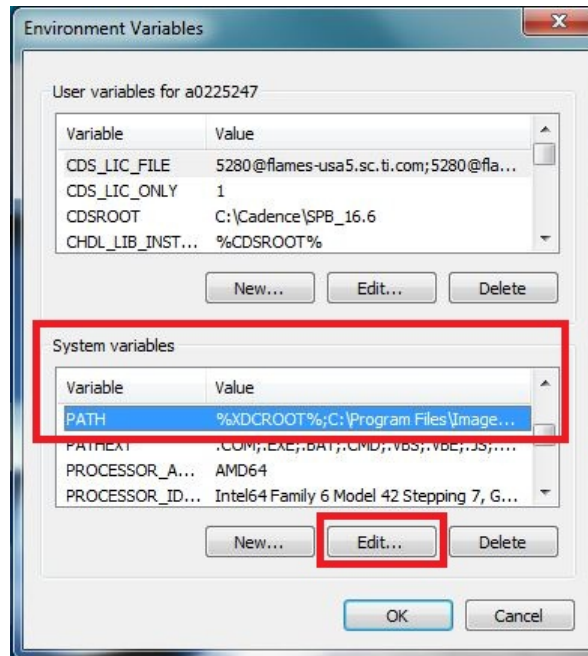

Figure 4-11. Editing the PATH Variable
- In the System variables section, browse to the entry labeled PATH. Highlight the entry and click the **Edit** button, shown in Figure 4-11.